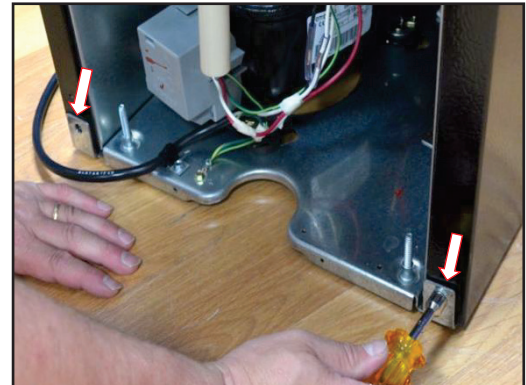

FIGURE 32
2. Remove the 2 base screws. See *Figure 32*.